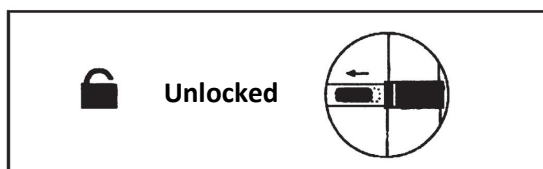

Fig. 4
- Unlocked position: There is a gap between the buttons and the spar (Fig. 4).
- Unlock the 2 buttons (Fig. 4)